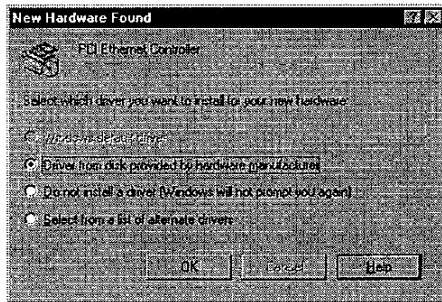

Figure 6. New Hardware Found
step2. Windows 95 will detect the SOHware Fast adapter and the *New Hardware Found* dialog box will open (Figure 6)